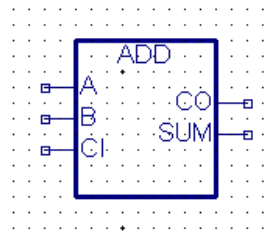

Figure 3-40. New Block Symbol - Add
5. Click in the schematic sheet to place the new Block symbol (Figure 3-40). To end the symbol entry process, right-click anywhere in the sheet.